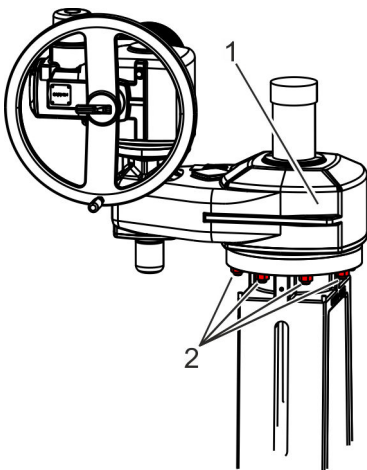

Fig. 28: Fastening the electric actuator
10. ➤ Fix the electric actuator (Fig. 28/1) to the bonnet using screws (Fig. 28/2) and washers.
Tighten the screws (Fig. 28/2) as specified by the manufacturer.